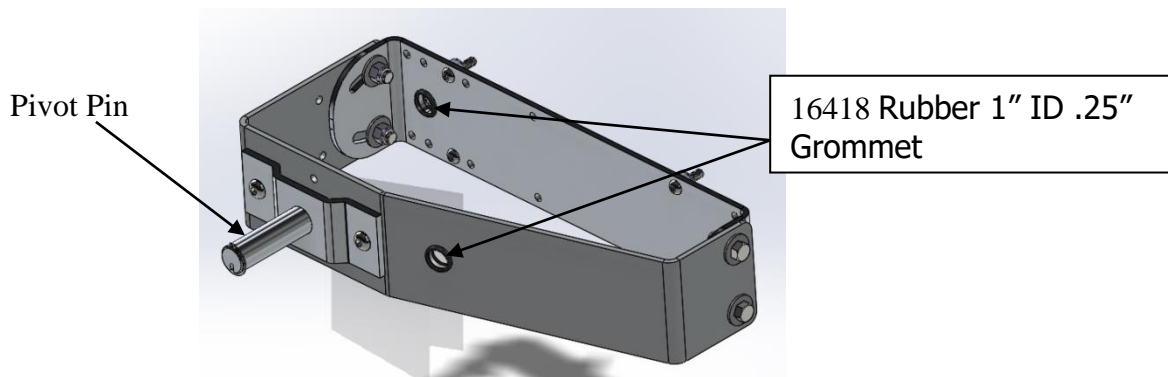

Figure 27
6. Mount the pivot pins that are in the arms to the Outer bracket through the provided holes in the face of the outer bracket as shown in figure 27 below. Note the groove in the pin should point down
- At the trailer nose side, insert a 16418 Rubber 1" ID .25" groove grommet into both the outer and inner 15/16" bracket holes. Shown in figure 27.